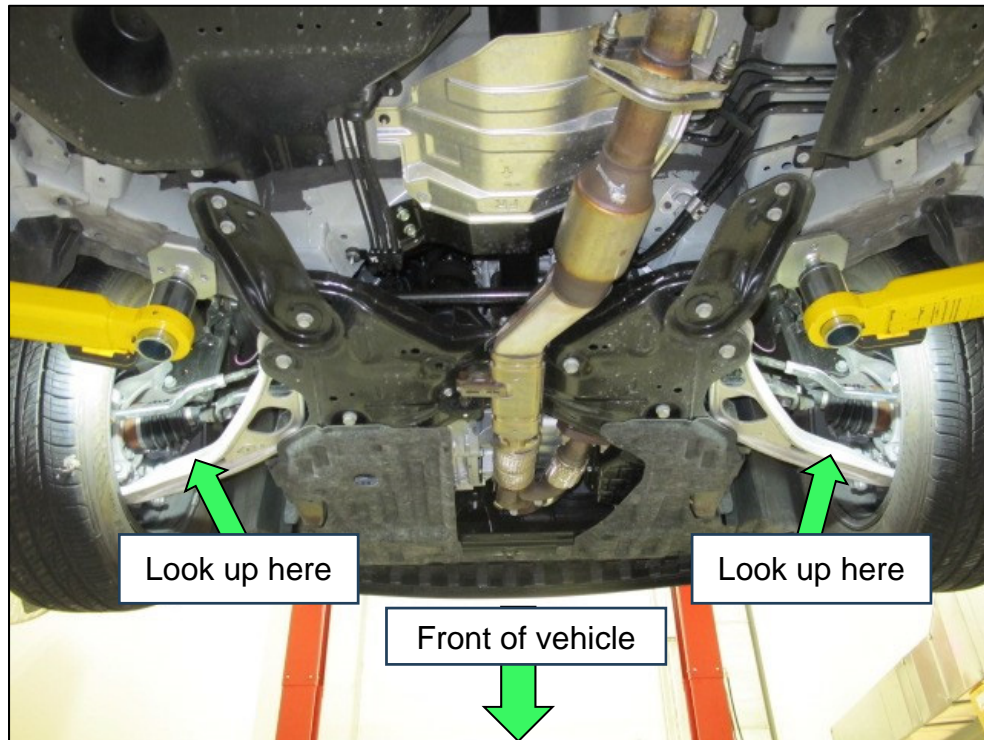

Figure 3
3. From under the vehicle, locate both front brake calipers (Figure 3).